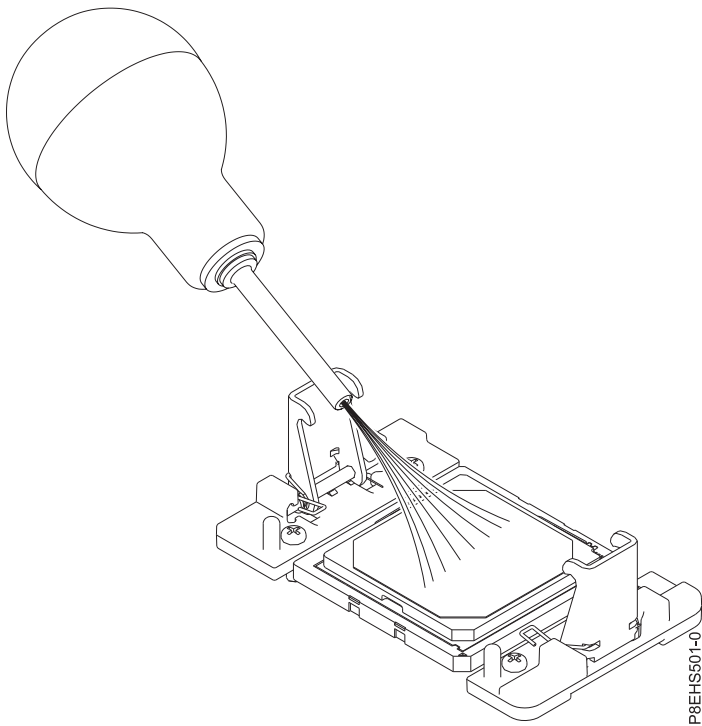

Figure 83. Removing dust and debris from the system processor module area
- a. If dust or debris is present, use the supplied air pump (part number 45D2645) to clean the system processor module area. Blow small bursts of air from the center toward the sides of the system processor module as shown in Figure 83 on page 82.